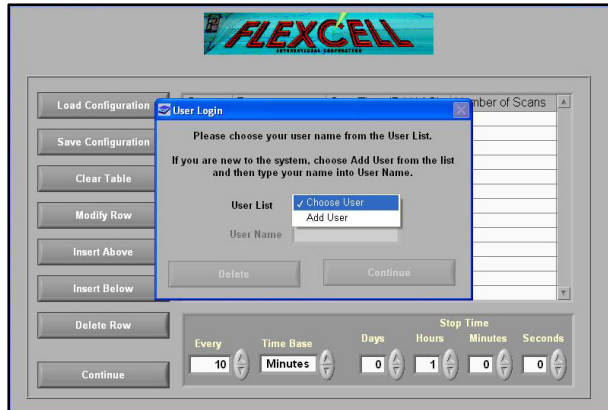

Figure 26. Choosing a user.
2. Click on *CHOOSE USER* to open-up a drop down menu (Fig. 26).